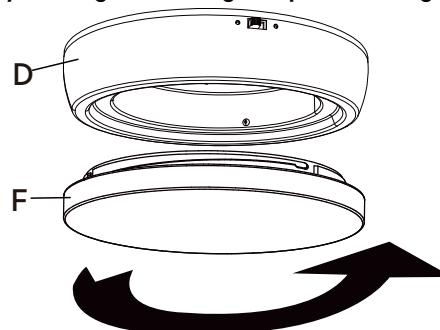

Figure 11
- Install the lamp shade (F) onto the light kit (D) by gently twisting and locking into position. (Figure 11)